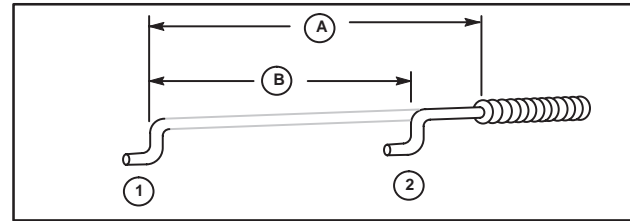

Fig. 54
Choke-A-Matic® is standard on Model Series 92900 (type nos. lower than 0500), and Series 92500 (type nos. lower than 600) engines. Remote control must be of type in which control wire moves 2-1/8" (54 mm) (A) out of casing when control lever is moved from "STOP" position (2) to "CHOKE" or "START" position (1). A minimum travel of 1-3/8" (35 mm) (B) is required when remote control is mounted, Fig. 54.